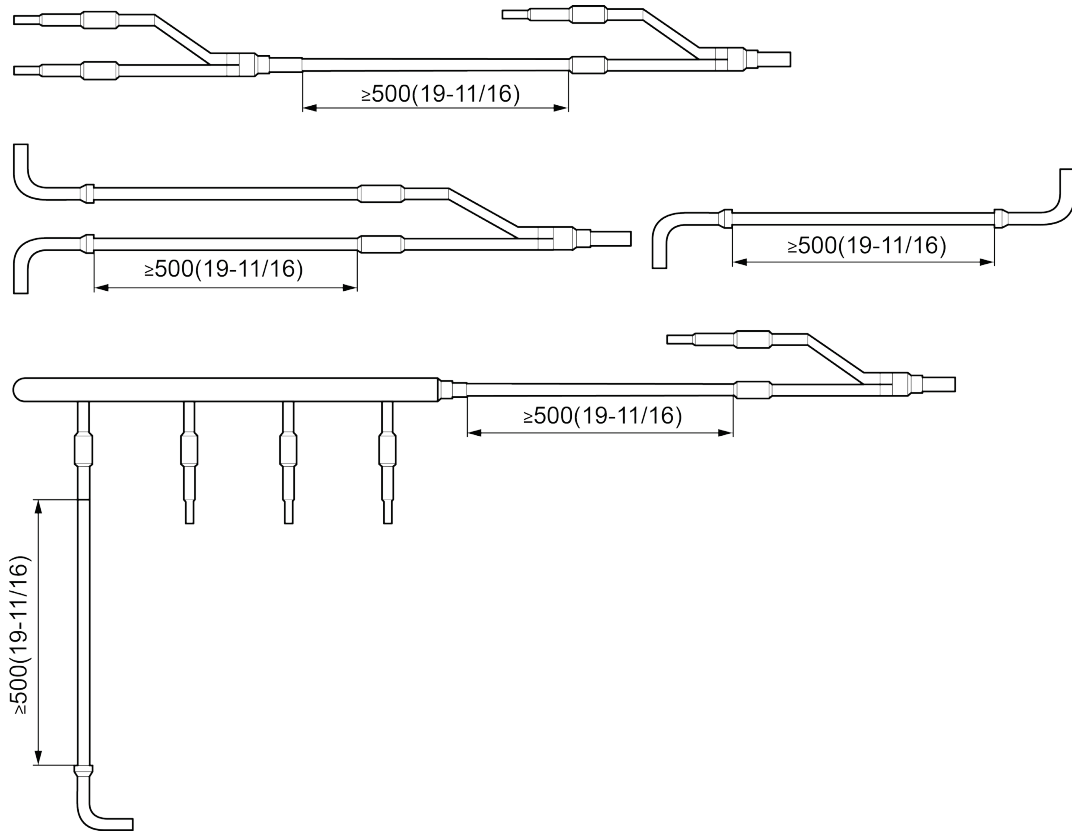

Fig.4.3.5
- (1) For multi VRF system, every copper pipe should be labeled so as to avoid misconnection.
- (2) Manifolds can be laid in the following ways:
- (3) The length of a straight pipe between two manifolds cannot be less than 500 mm (19-11/16inch). The length of a straight pipe before the main pipe port of the manifold cannot be less than 500mm (19-11/16inch). The length of a straight pipe between the branch of the manifold and the IDU cannot be less than 500mm(19-11/16inch). See Fig.4.3.5.